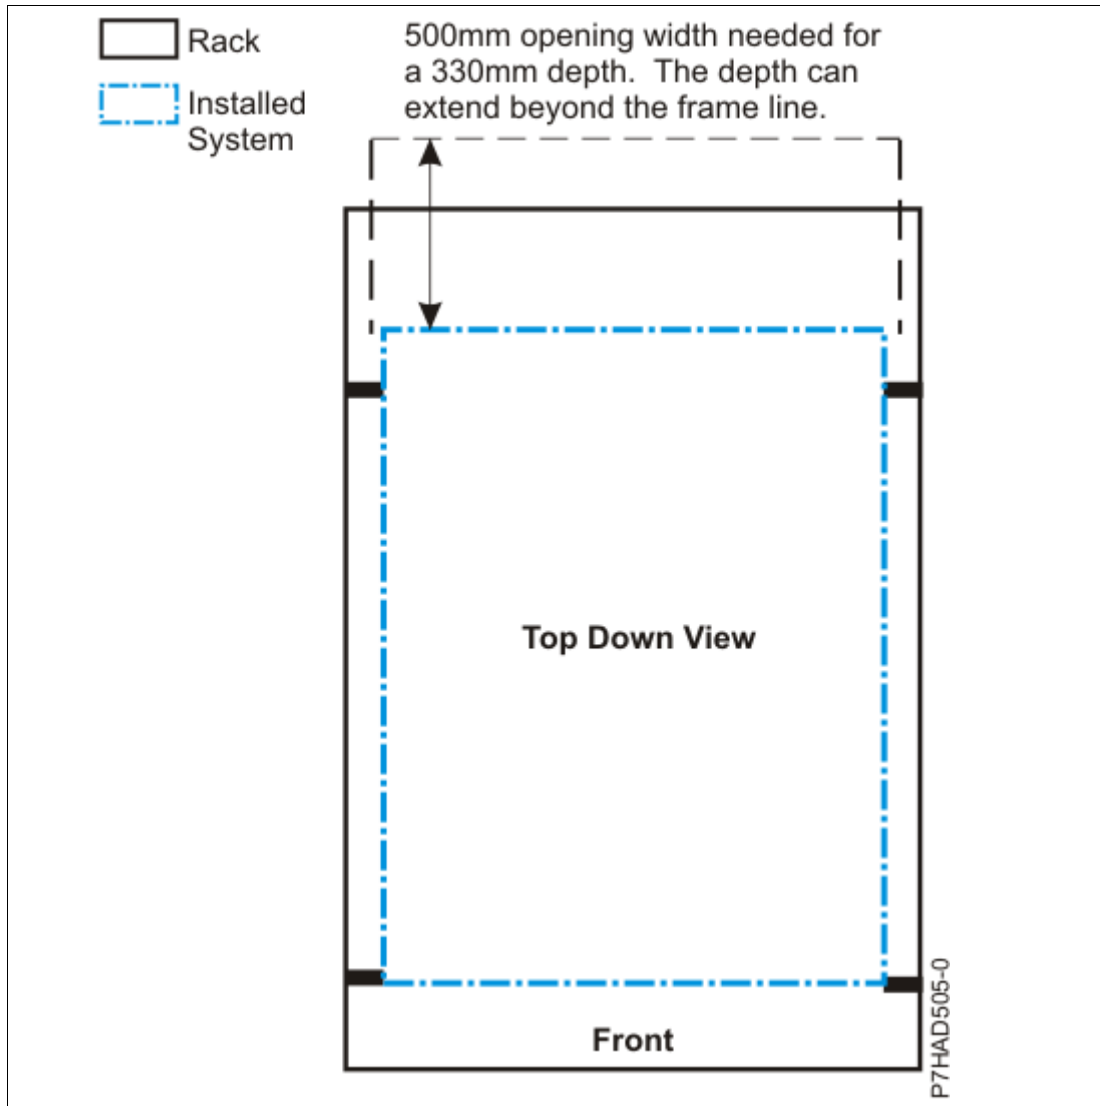

Figure 3-18 OEM rack opening depth
- ▶ A minimum rack opening width of 500 mm (19.69 in.) for a depth of 330 mm (12.99 in.) is needed behind the installed system for maintenance, service, and cable management. The recommended depth is at least 254 mm (10 in.) within the rack from the rear rack mount flange to the frame line, as shown in Figure 3-18.